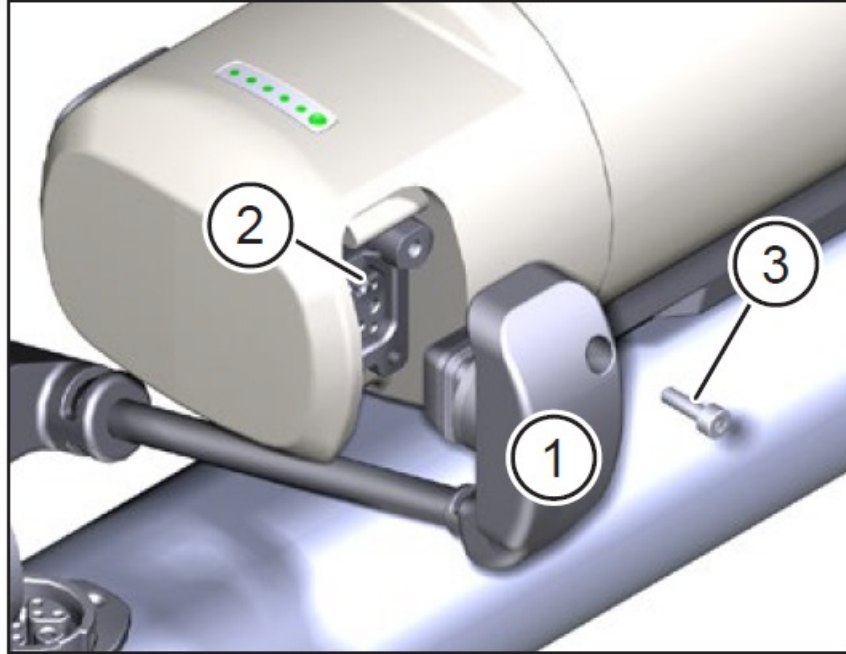

Fig. 7: Fasten the connection cable to the Range Extender
- Connect the plug (Pos. 1 in Fig. 7) of the connection cable to the socket (Pos. 2 in Fig. 7) in the Range Extender.
- Fasten the connector to the Range Extender with the M3 × 8 socket head screw (Pos. 3 in Fig. 7) included in the scope of delivery of the cable, with a torque of 1 Nm. Never use a longer screw. Other-wise there is a risk of damaging the electronics in the Range Extender.